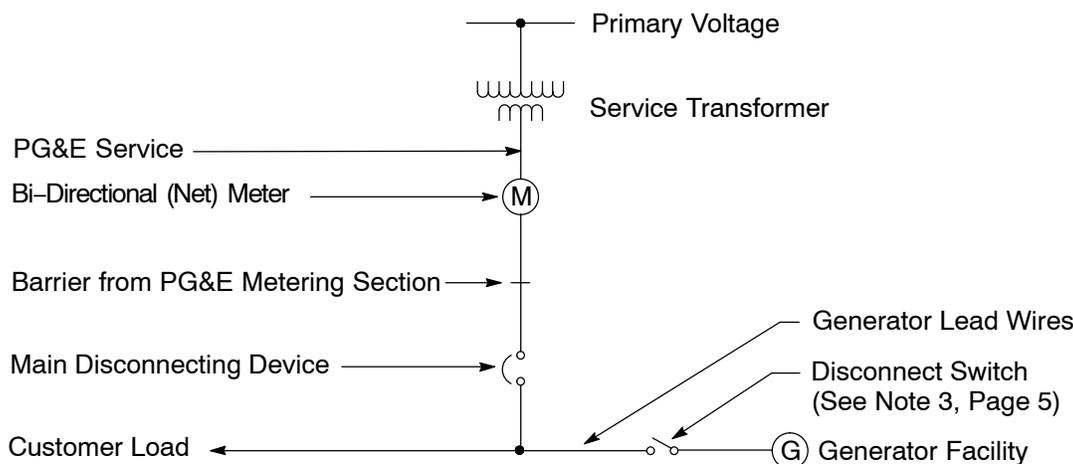
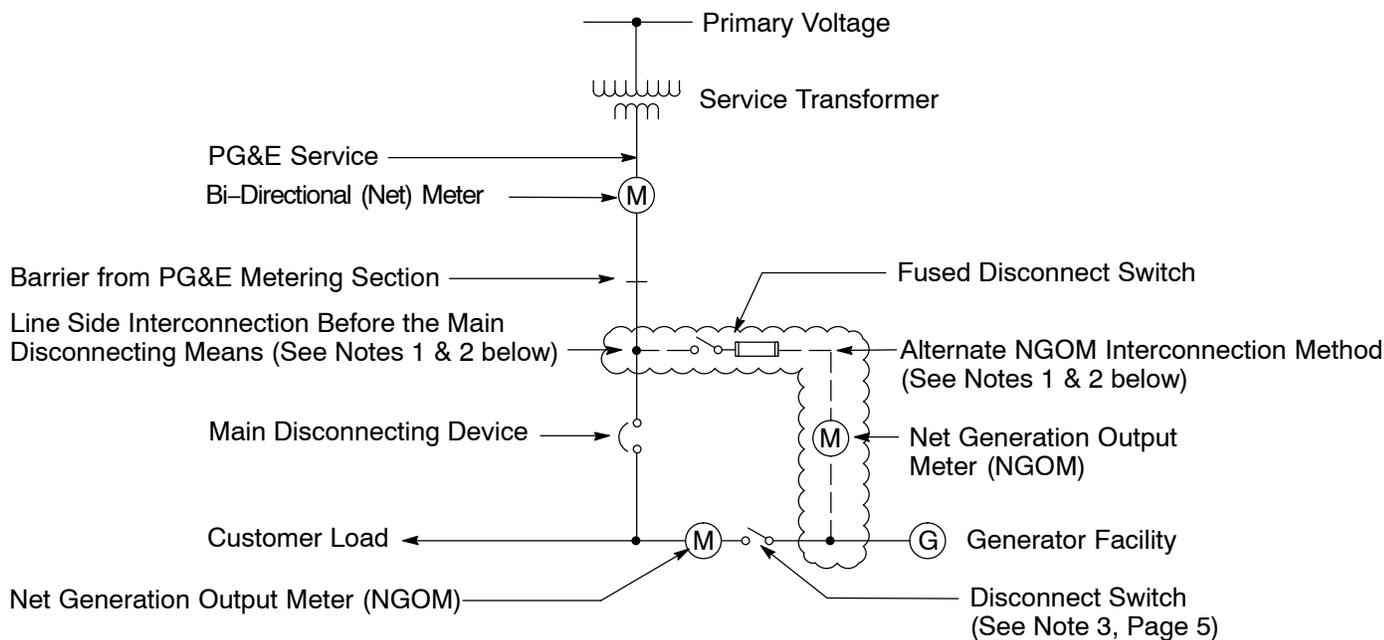

Figure 2
Figure 3
Notes for Figure 2 and Figure 3:
2. If a line (Supply) side interconnection is approved, install a fused disconnect switch before the NGOM, as shown in Figure 3, above.